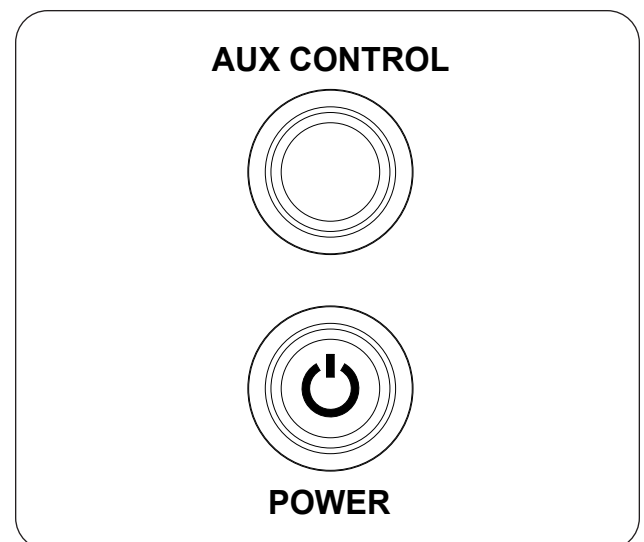

Fig. 37-1 Manual Operation:
1. Locate the control panel on the side of the unit (refer to the IDENTIFICATION PARTS LIST if needed), and identify the **AUX CONTROL** and **POWER** buttons (see Fig. 37-1).
**WARNING: If the pilot fails to light within 15 seconds, or if the burner fails to light within 15 seconds of pilot lighting, push the POWER button on the control panel to turn off. Allow five (5) minutes for any gas in the unit to dissipate, then repeat steps 1-2 above. IF YOU SMELL GAS, SEE STEP C ABOVE.**
**To shut down the burner (system will remain on)**, push the **AUX CONTROL** button (see Fig. 37-1).
**To shut down the burner and system (total shutdown)**, push the **POWER** button (see Fig. 37-1).